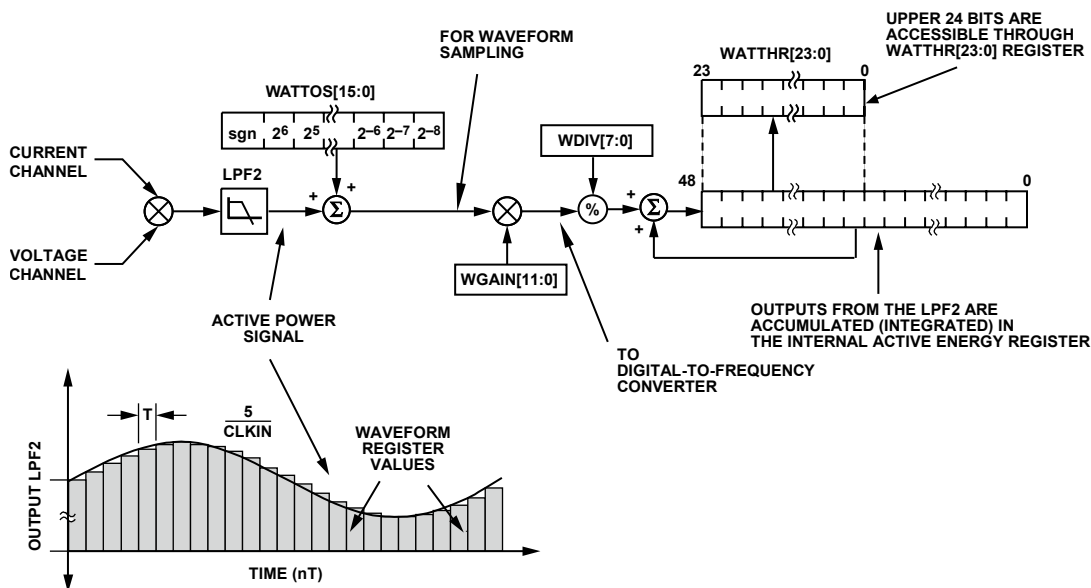

Figure 65. Active Energy Calculation
Figure 65 shows the signal processing chain for the active power calculation in the ADE7566/ADE7569/ADE7166/ADE7169. As explained previously, the active power is calculated by filtering the output of the multiplier with a low-pass filter. Note that when reading the waveform samples from the output of LPF2, the gain of the active energy can be adjusted by using the multiplier and watt gain register (WGAIN[11:0]). The gain is adjusted by writing a twos complement 12-bit word to the watt gain register. Equation 12 shows how the gain adjustment is related to the contents of the watt gain register.
The discrete time sample period (T) for the accumulation register in the ADE7566/ADE7569/ADE7166/ADE7169 is 1.22 μ s ($5/MCLK$). In addition to calculating the energy, this integration removes any sinusoidal components that may be in the active power signal. Figure 65 shows this discrete time
The output of the multiplier is divided by the value in the WDIV register. If the value in the WDIV register is equal to 0, the internal active energy register is divided by 1. WDIV is an 8-bit unsigned register. After dividing by WDIV, the active energy is accumulated in a 49-bit internal energy accumulation register. The upper 24 bits of this register are accessible through a read to the active energy register (WATTHR[23:0]). A read to the RWATTHR register returns the content of the WATTHR register, and the upper 24 bits of the internal register are cleared. As shown in Figure 65, the active power signal is accumulated in an internal 49-bit signed register. The active power signal can be read from the waveform register by setting the WAVMODE register (0x0D) and setting the WFSM bit in the Interrupt Enable 3 SFR (MIRQENH, 0xDB). Like the current and voltage channels waveform sampling modes, the waveform data is available at sample rates of 25.6 kSPS, 12.8 kSPS, 6.4 kSPS, or 3.2 kSPS.